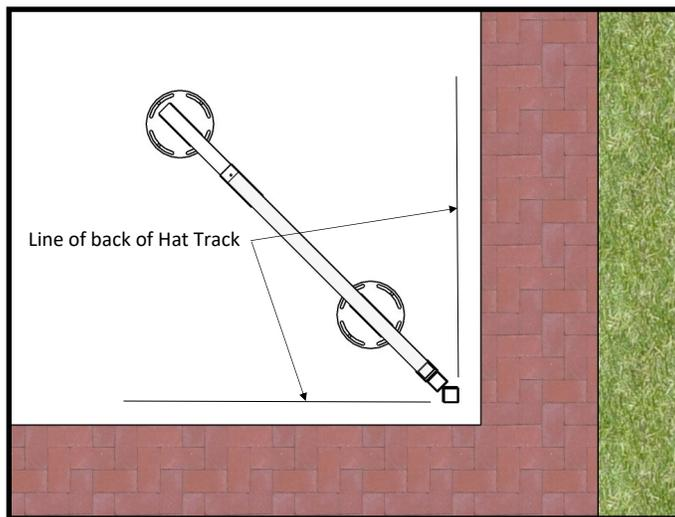

Fig 9
6. Begin assembling the corner frames first paying attention to the finish outside surface of the screen then subtracting the thickness of the Screen (#8) and Hat Track (#1). (see fig 9) Refer to the drawings provided.
8. Once the corner frames are in place and checked, run a string line from corner to corner down the side you want to assemble next. (see fig 9)